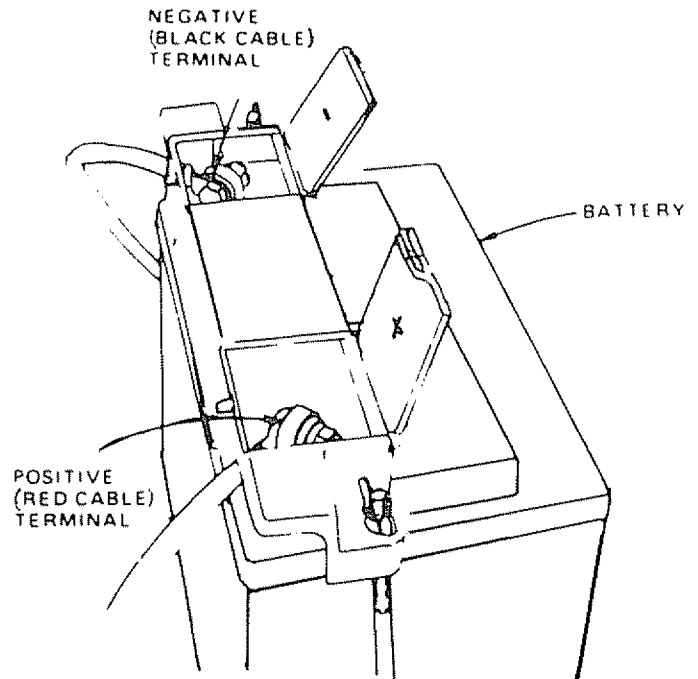

FIGURE 28
- a. Connect each end of the **RED** jumper cable to the **POSITIVE(+)** terminals of each battery (taking care not to short against chassis). (Fig. 28)